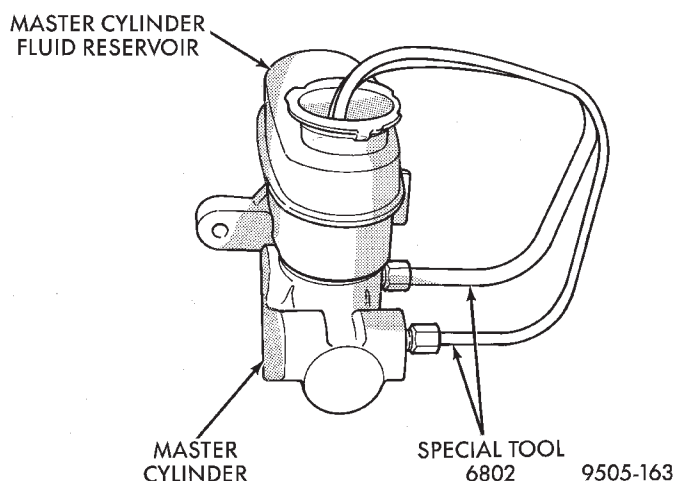
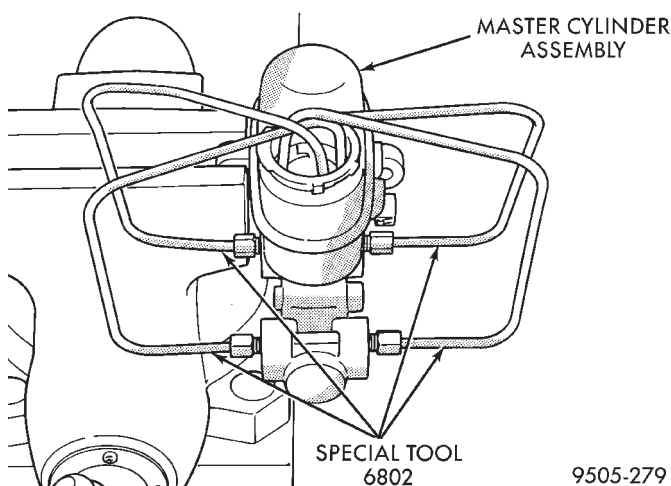

**Fig. 85 Bleeding Tubes Attached to ABS Master Cylinder**
**Fig. 86 Bleeding Tubes Attached to Non-ABS Master Cylinder**
(1) Clamp the master cylinder in a vise. Attach Bleeding Tubes, Special Tool 6802 to the master cylinder outlet ports (Fig. 85) (Fig. 86). **Position the bleeding tubes so outlets of the tubes will be below the surface of the brake fluid when reservoir is filled to the proper level.**